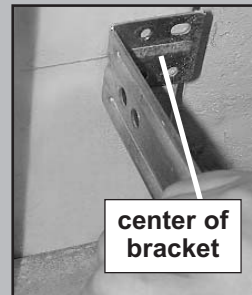

FIG. 3-2 Mount brackets.
- Center bracket on your mark (**Fig. 3-2**).